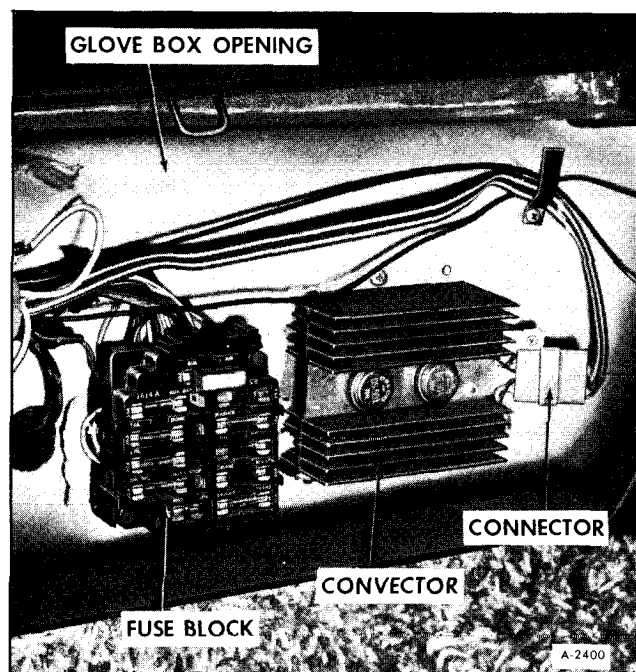

Figure 41—Convector Installation
STEREO TAPE PLAYER CONVECTOR (FIGURE 41)
3. Remove the (2) retaining screws and remove convector (See figure 41).